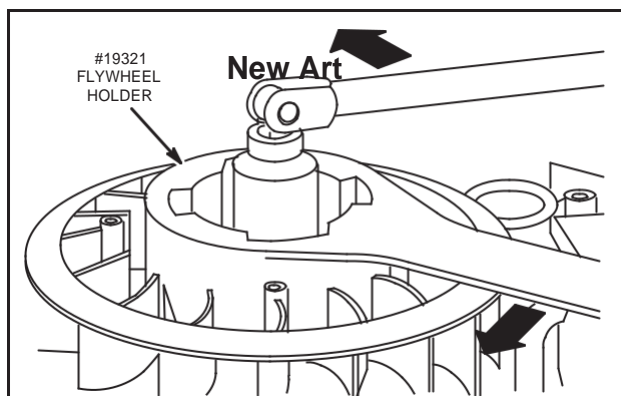

Fig. 4 – Removing Flywheel Nut
1. Place flywheel holder, Tool #19489 on fan retainer with lugs of flywheel holder engaging slots on the fan retainer, Fig. 4.